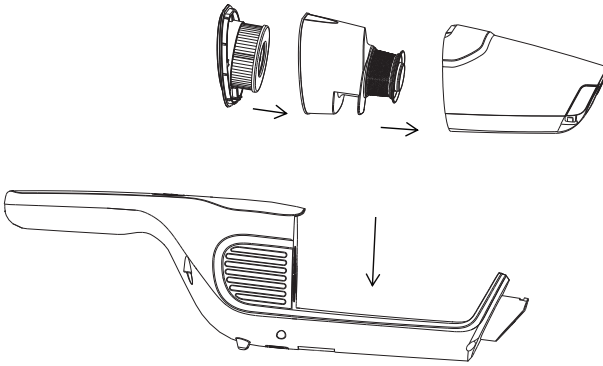

Fig. 6-5
5) After cleaning the dust cup assembly, please install the filter into the filter cover firstly and then put them into the dust cup, after it, install the dust cup into the handheld unit.(see Fig 6-5)